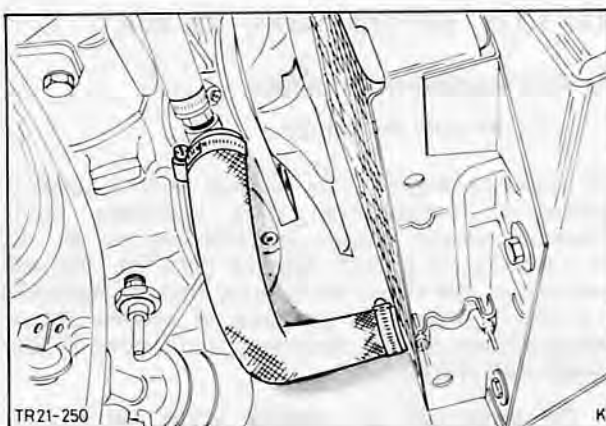

Fig. 13. Detach radiator hose from water pump ('A' engine)
3. Drain coolant into a receptacle by detaching lower radiator hose from water pump, Fig. 13, and disconnect top hose from thermostat housing and remove.